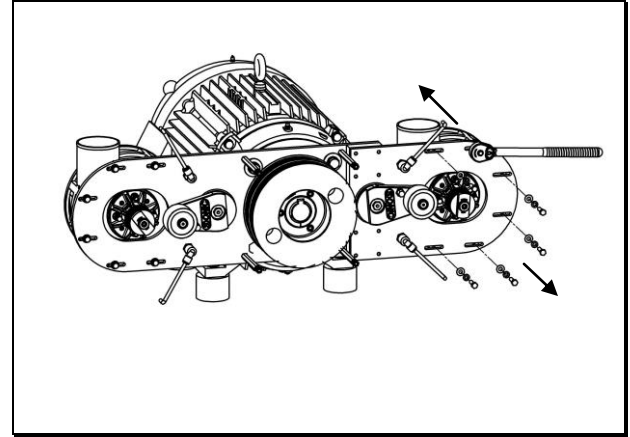

Figure 16 – Remove Blower Head
4. Using the ½ inch socket, remove the eight screws from the bracket that secure the blower head. (See Figure 16)